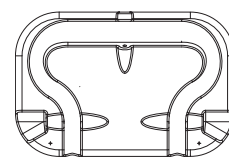

Fig. 1
1. Lay the Squat Stand, with the Foam Pad down, on the floor. See Fig. 1.